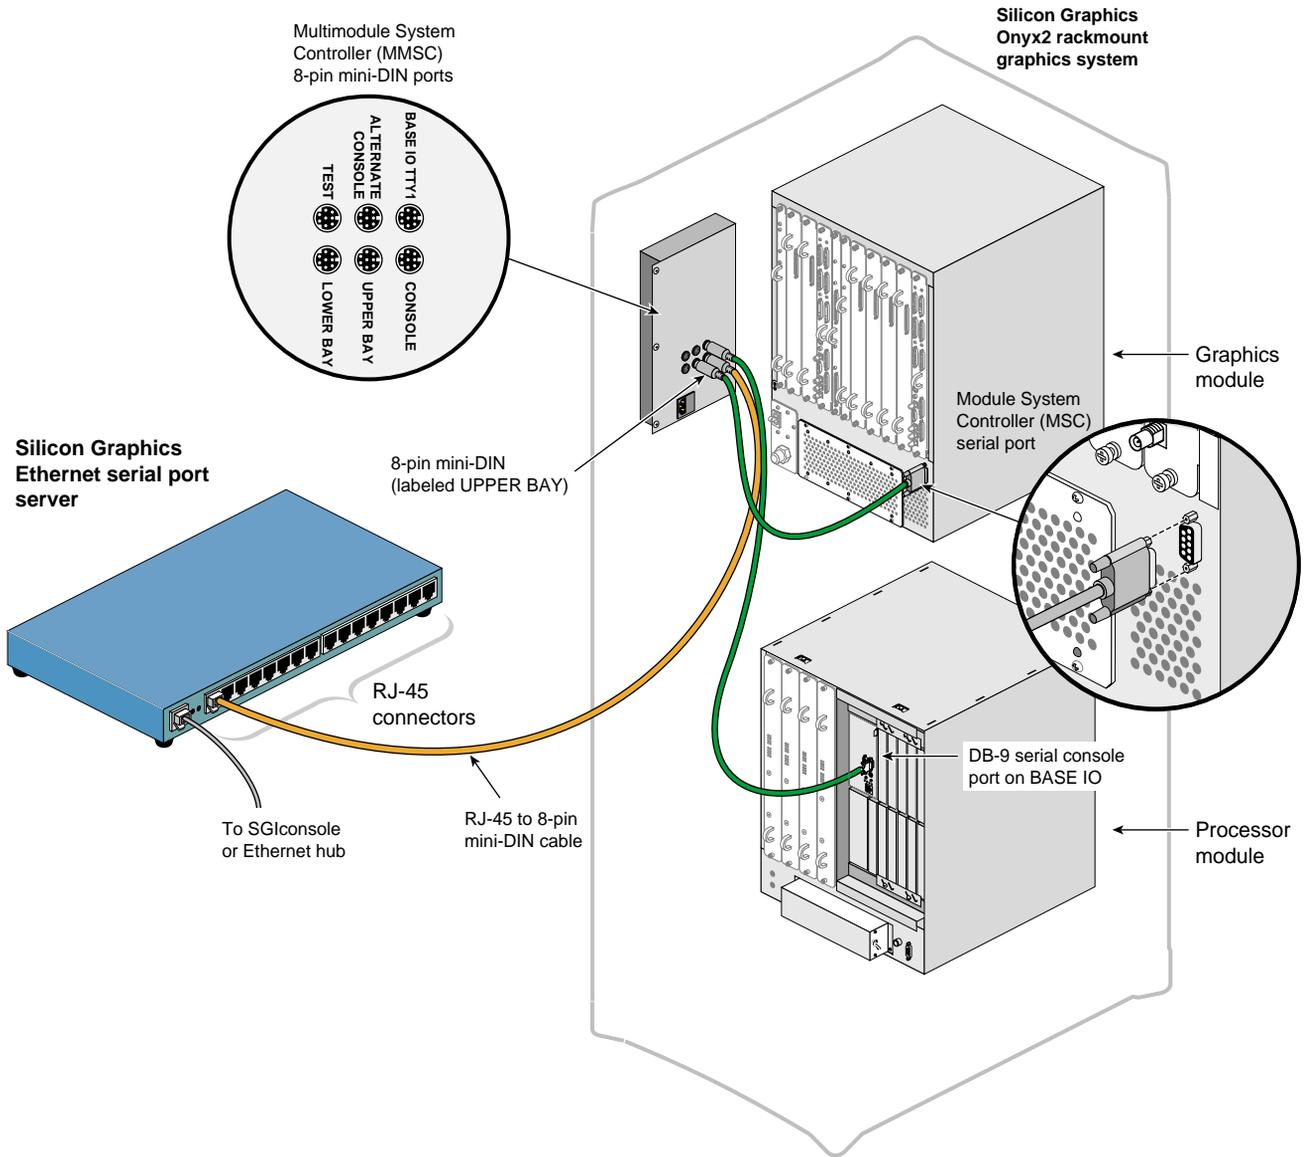

Figure 5-35 Connecting the MMSC Upper Bay Connector to the Graphics Module MSC Serial Port
8. Connect the 8-pin mini-DIN connector of the second 8-pin mini-DIN to DB-9 cable to the MMSC connector labeled "Upper Bay." Connect the DB-9 connector end of the same cable to the Module System Controller (MSC) serial port rear panel connector of the Silicon Graphics Onyx2 rackmount graphics system graphics module located in the upper bay of the rack. See Figure 5-35.